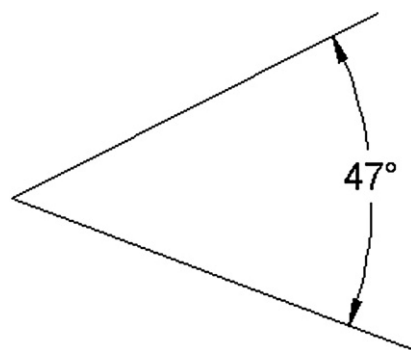

FIGURE 6.6
This is a dimension for angles between two lines or objects (Figure 6.6).
- Step 1.** Create two lines spread out at a random angle, as seen in Figure 6.6. Then, begin the angular dimension command via any of the preceding methods.